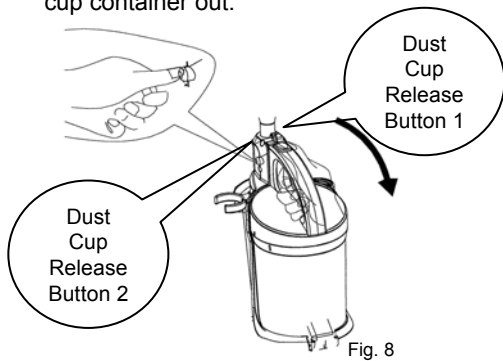

Fig. 8
1. To remove the dust cup container, first press on the dust cup release button (1) that is located on the dust cup handle and at the same time press on the dust cup release button (2) that is on the side of the upper housing (Fig. 8). Then pull the dust cup container out.